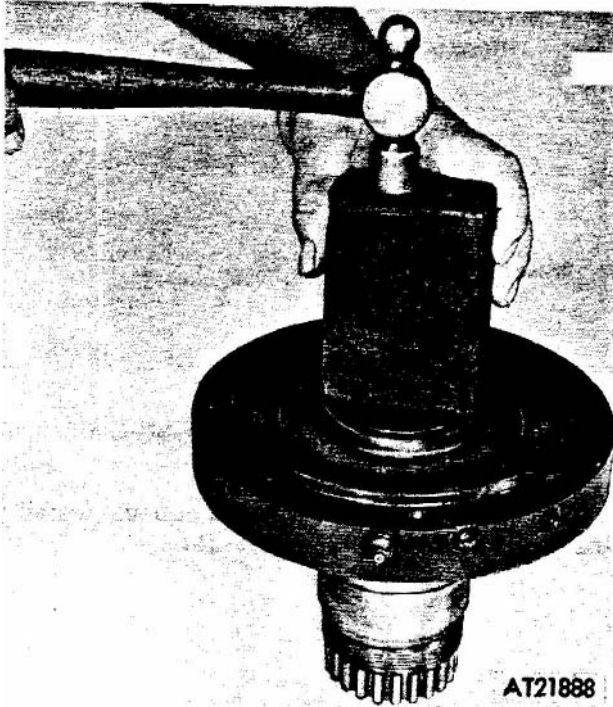

Figure 2-235. Seal wiper installation.
(3) Insert seal wiper into spindle above input drive seal using a wooden block and a hammer (fig 2-235).